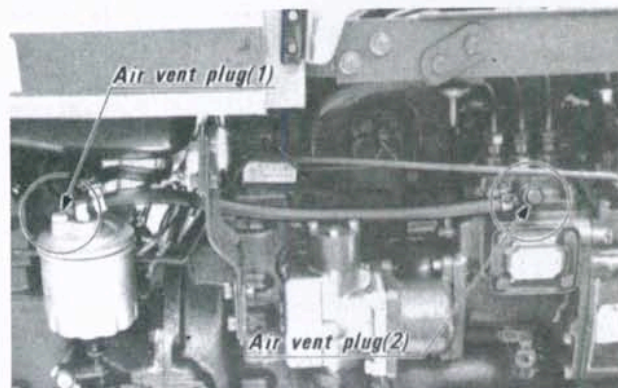

Fig. 58—Location of fuel system air vent plugs.
45. **BLEEDING.** To bleed air from fuel system, open fuel shut-off valve and loosen air vent plug (Fig. 58) on filter base. When steady stream of fuel appears at vent plug, tighten plug. Loosen vent plug on fuel injection pump until